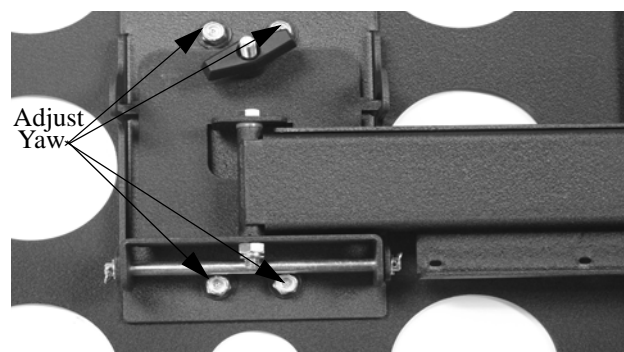

FIGURE 4. ADJUST ROLL
1. Loosen four 5/16-18 hex head bolts (see Figure 4).